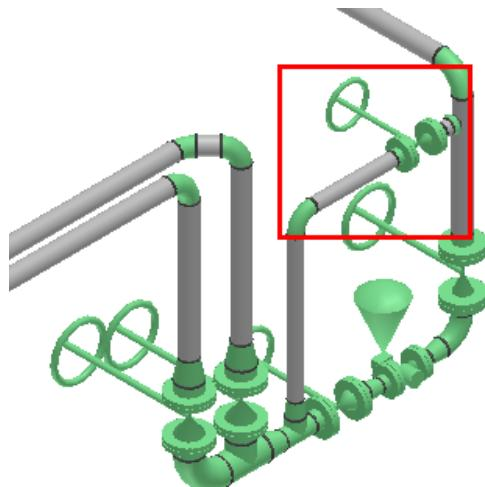

Figure 7: Pipe Straight Feature After Moving to a New Position
51. Click in the graphic view to accept the position of the moved pipe feature, as shown in Figure 7.